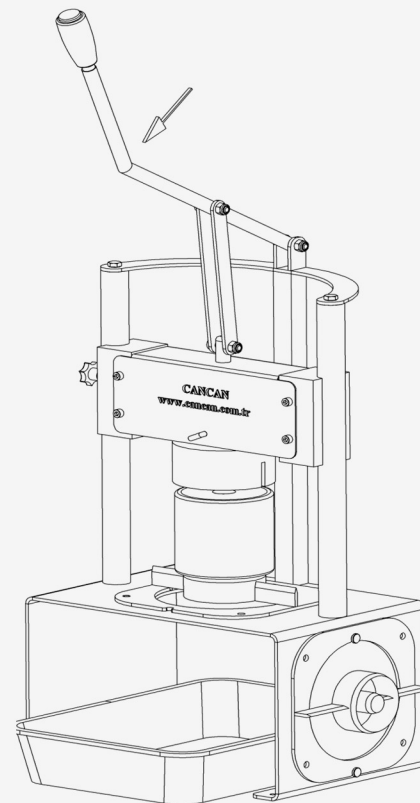

Figure 5
- ✓ Take the pineapple's leaves and cut the bottom part of the pineapple and place in the machine (Figure 5).